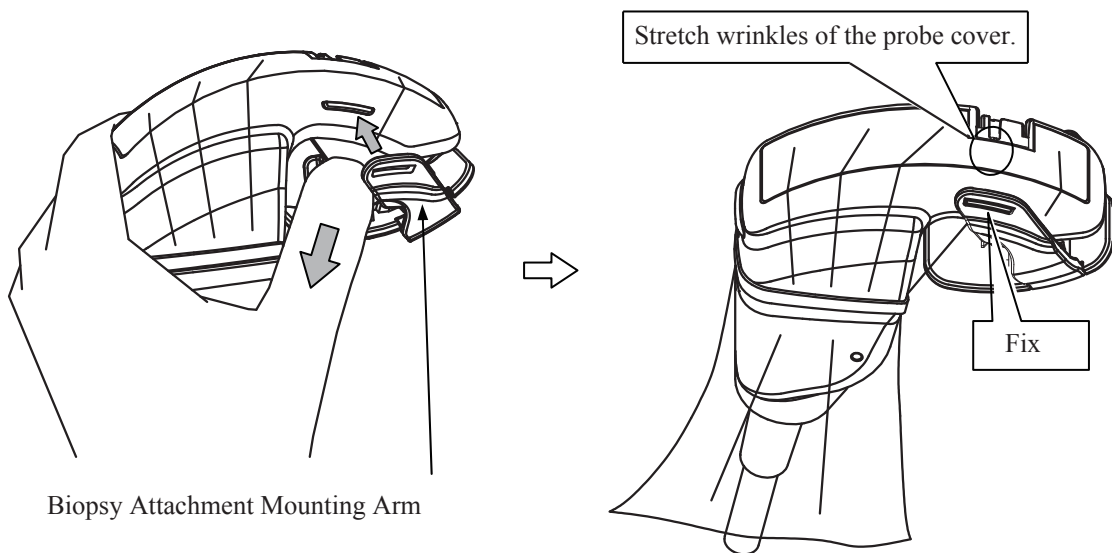

Figure 11 Fixing Biopsy Attachment Mounting Arm
- (7) Fix the biopsy attachment mounting arm to the probe while pulling the probe cover as shown in Figure 11. Note that the wrinkle at the part indicated in Figure 11 should be smoothed as possible.